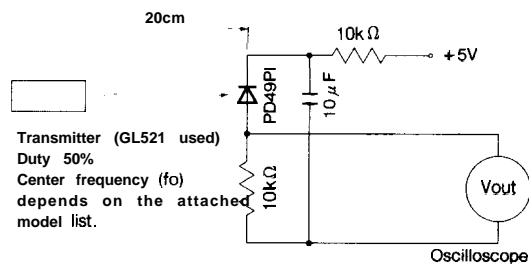
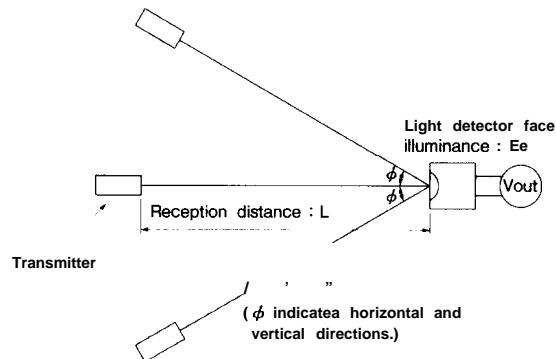

Fig. 1. Transmitter
Fig. 2. Standard optical system
*3 The burst wave as shown in the following figure shall be transmitted by the transmitter shown in Fig. 1
Using the transmitter shown in Fig. 1, the output signal of the light detecting unit is good enough to meet the following items in the standard optical system in Fig. 2.
When $L=0.2$ to 6.5m , $E_e < 10\text{ lx}$ and $\phi = 0^\circ$ in Fig. 2, the output signal shall meet the electrical characteristics in the attached list.
When $L = 0.2$ to 4.5m , $E_e < 10\text{ lx}$ and $\phi \leq 30^\circ$ in Fig. 2, the output signal shall meet the electrical characteristics in the attached list.
When $L = 0.2$ to 3m , $E_e \leq 300\text{ lx}$ and $\phi = 0^\circ$ in Fig. 2, the output signal shall meet the electrical characteristics in the attached list.